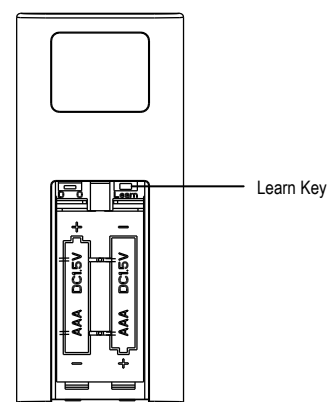

FIG 3
2. Use a small screwdriver or ballpoint pen to press and hold the "LEARN" key, located in the battery compartment (see FIG. 3.), for 3 seconds. Fan will turn on at high speed and light (if installed) blinks 3 times. This confirms that the SMART SYNC setting is active. You now have 30 seconds to press the LEARN key. Tap the FAN OFF button to turn off the fan.